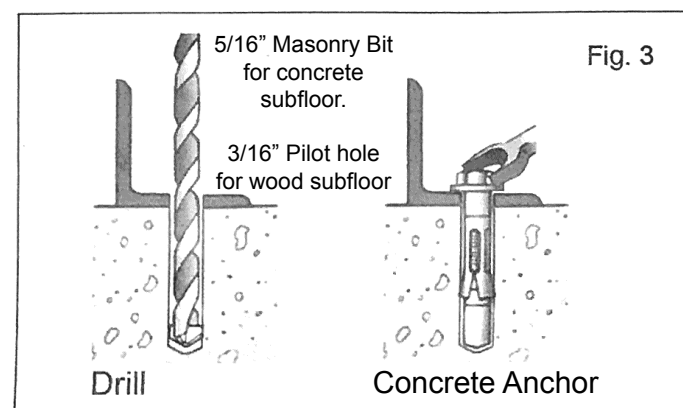

Fig. 3
7. If concrete subfloor, Remove frame and drill 5/16" holes. Install anchors (UMANC) in holes. See Fig. 3. If wood subfloor, drill 3/16" pilot hole, and secure using 5/16" x 1 1/2" Lag Screws (not included). If installing over carpet, it is recommended that the carpet be cut back so that the floor yokes sit directly on the subfloor.